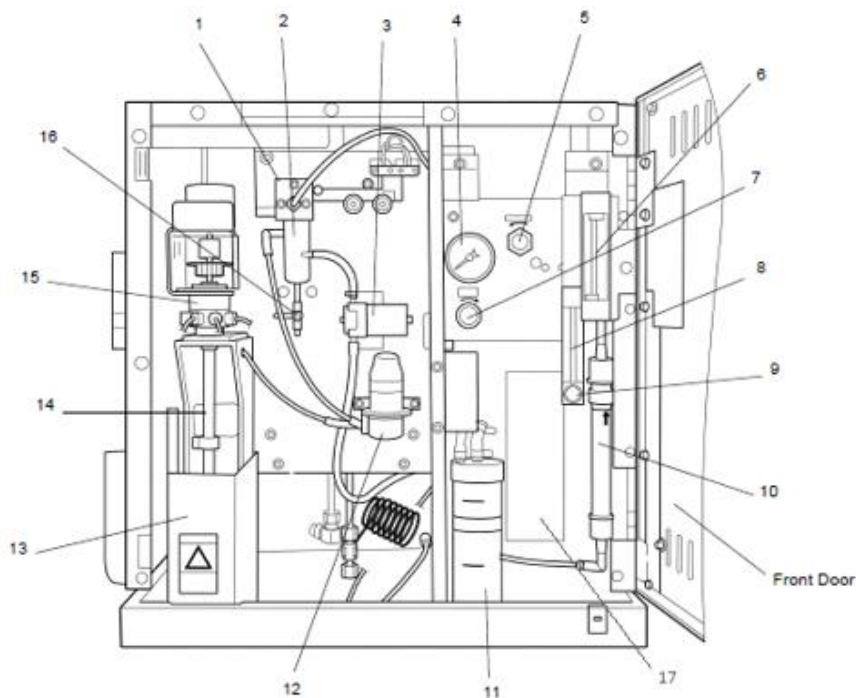
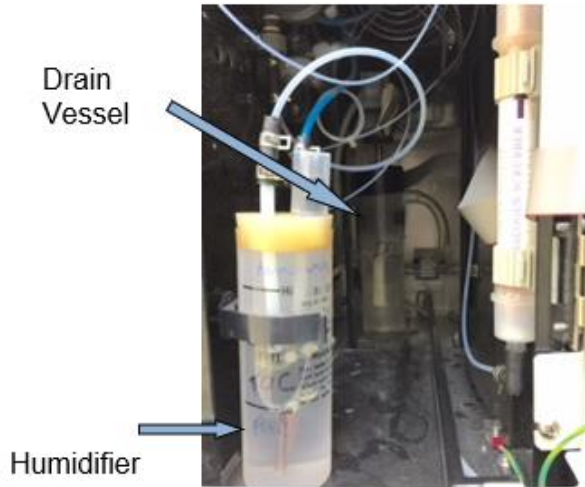

Figure 1. Layout of the TOC-V_{CSN/H} after opening the front door of machine.
Figure 2. TOC-VCSN
- 3.1.1 Wear gloves before proceeding. Open the front door of the TOC-VCSN using the latch on the bottom left. Check the **drain vessel** volume (back of machine, right hand side). If needed, fill with DI water to the level indicated by the drain discharge tube on the side of the container. Use DI wash bottle to fill the container through the slits in the top of the black cap in situ. **Do not** remove the cap or unclip the bottle from its current location. Use Figure 1 as a reference; see Figure 2 for a close-up view.
- 3.1.2 With the door open, check the **humidifier** water container level in the front of the TOC-VCSN; fill if needed. Add **TOC certified water** using a wash bottle to fill the container to the 'Hi' level mark. Squirt water through the water supply port opening in the top of the container. Close the door of the TOC-VCSN (Figure 2).